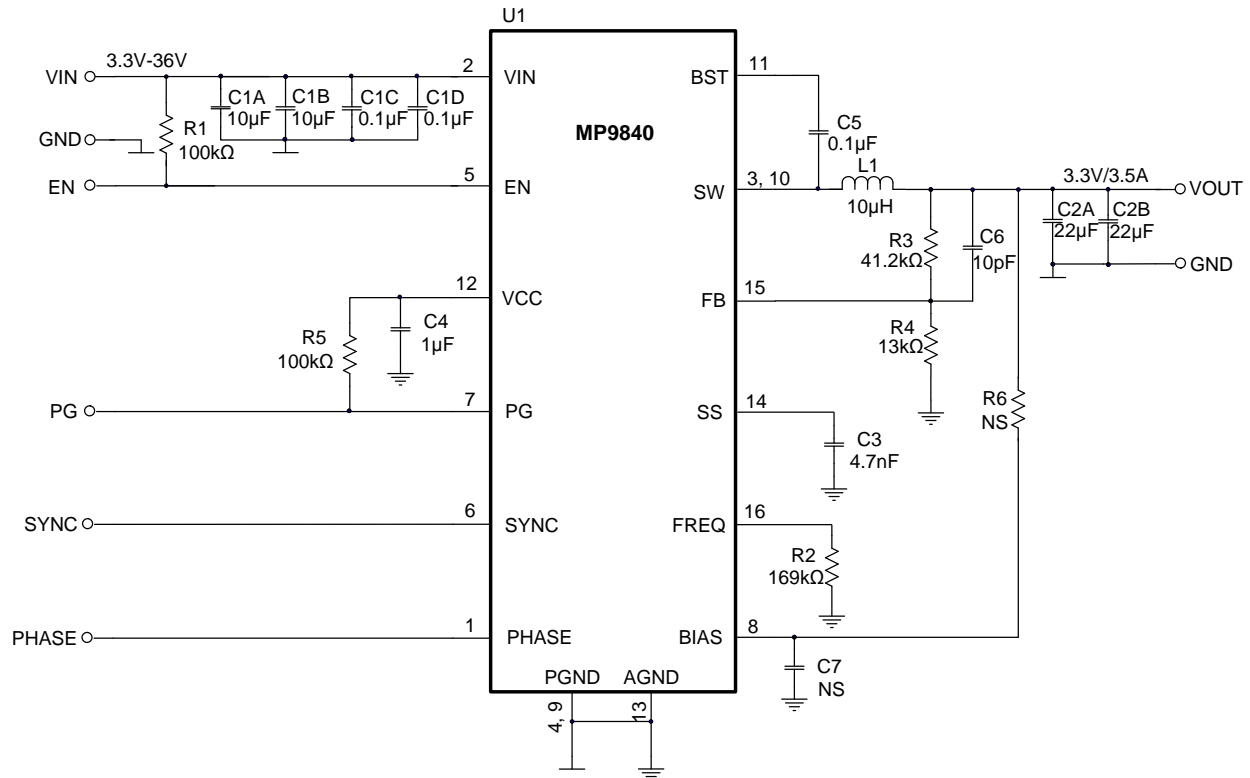

Figure 9: $V_{OUT} = 3.3V$, $F_{SW} = 500kHz$
6) The recommended PCB layout is based on Figure 9.